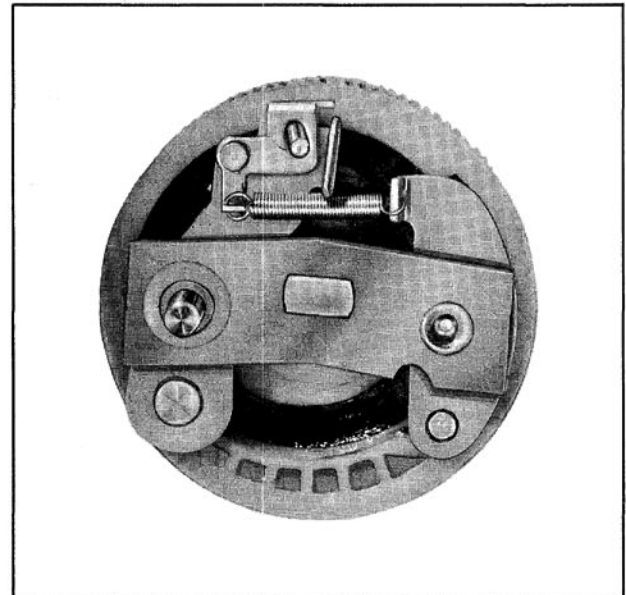

Fig. 13-144 Pawls Assembled
5. Connect the coil tension spring between the lock and drive pawls. (Fig. 13-144)